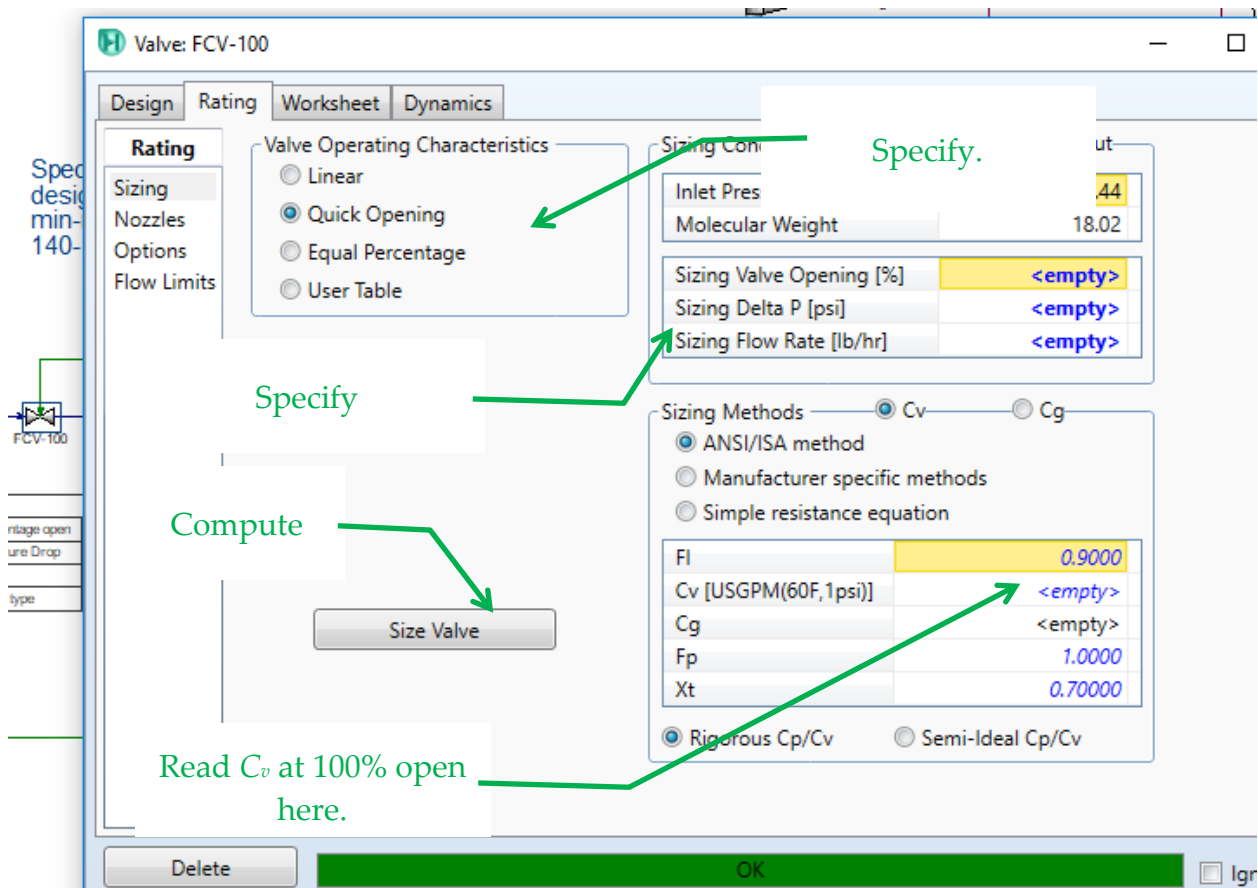

Figure 7. Sizing the control valve.
- 6) Enter your values for valve open percentage, valve pressure drop, and valve mass flow rate at the design flow rate into HYSYS as indicated in Figure 7. Size the valve using the utility provided by HYSYS.